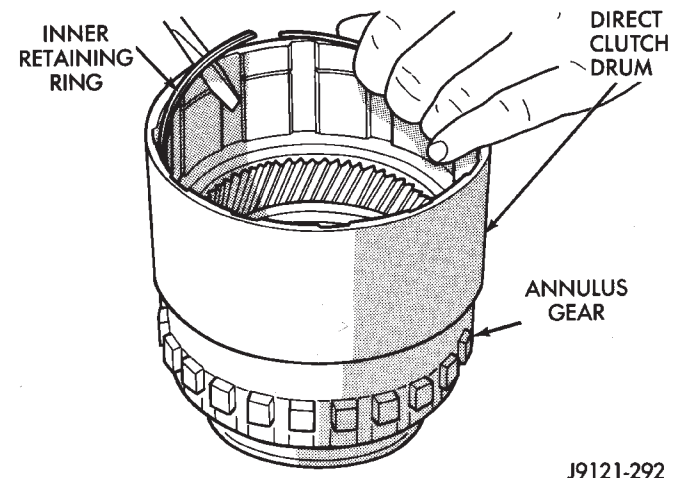

Fig. 28 Clutch Drum Inner Retaining Ring Removal
(7) Remove direct clutch drum rear retaining ring (Fig. 28).